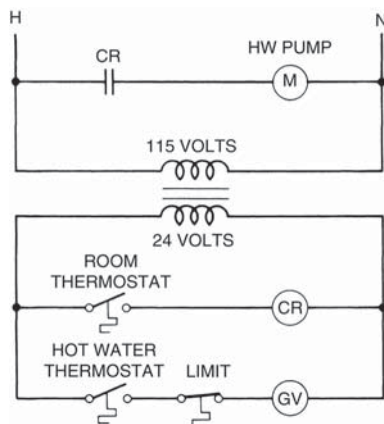

FIGURE 23-2 Single-zone hot water boiler schematic.
1. According to the ladder diagram (Figure 23-2), the hot water pump comes on when: